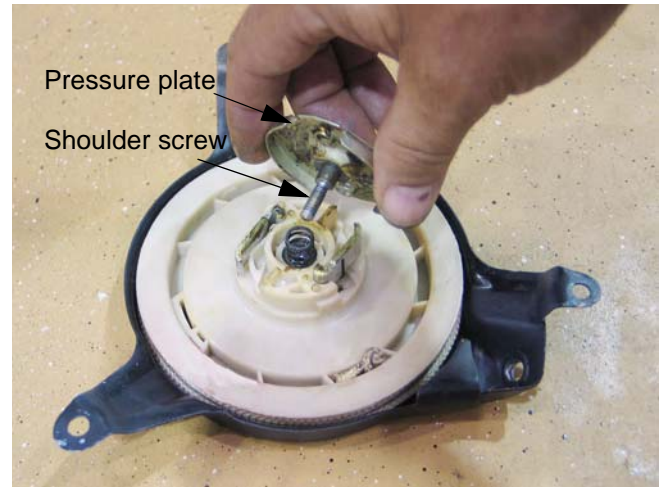

Figure 6.10
- 6.10. If further damage is suspected, the recoil may be disassembled by removing the shoulder screw and pressure plate using a 10 mm wrench. See Figure 6.10.